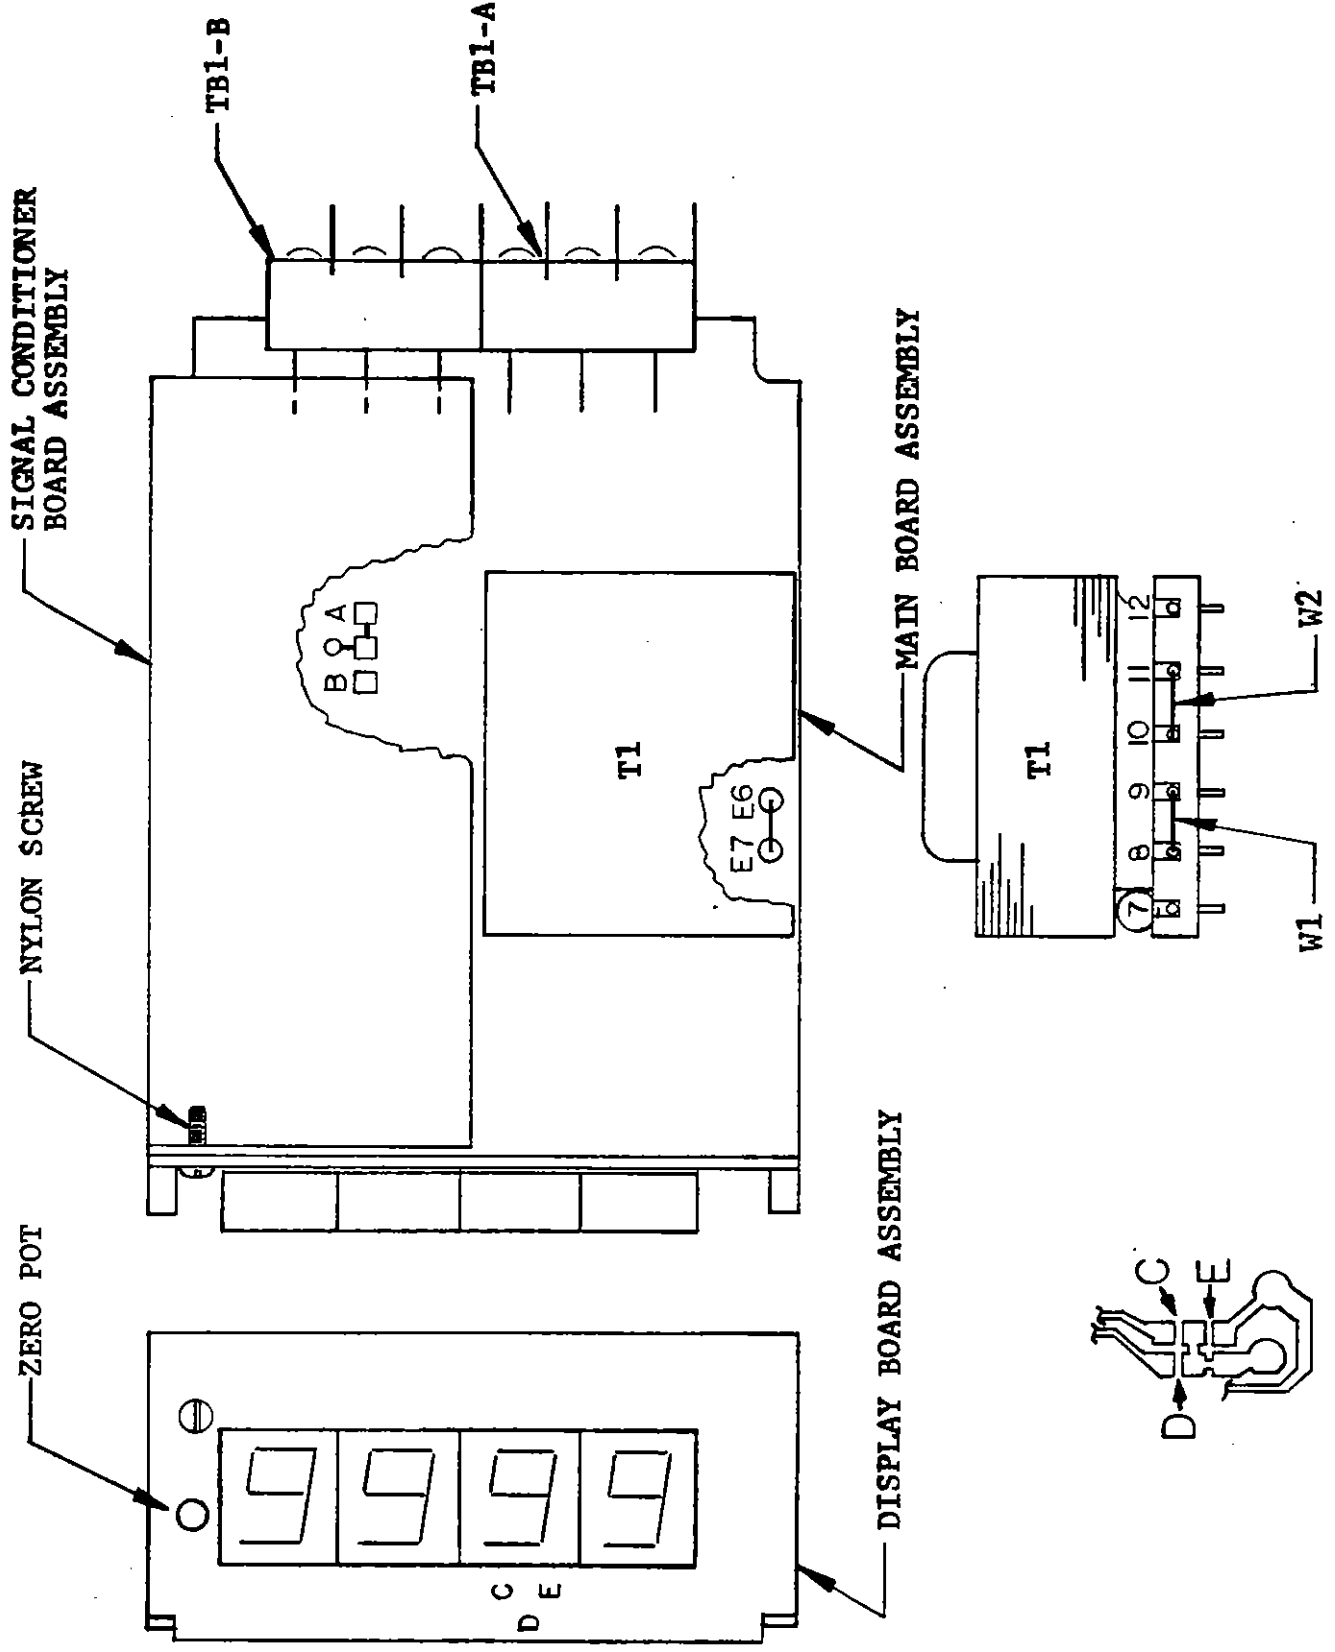

Figure 4
Option C1 is 230V $\pm 10\%$, 50 Hz operation. To change the meter in the field, from 115 to 230V operation, use the following procedure. See Figure 4
- d. Locate the range module mounting screw in Figure 4 and remove.
- f. For Options PC3, PC4 or PC6 solder jump "C" Decimal #2 on Display Board. (See Figure 4)
- g. For Option GC1, cut jumper "A" and solder jump "B" on main board. (See Fig. 4)
Any of three decimal points can be lighted by connecting the appropriate jumper with a bridge of solder as shown in Figure 4.
3. Apply zero volts from calibrated voltage source and verify readout of $\pm 0.0^{\circ}\text{C}$ or 32°F . Adjust zero pot if required (see Figure 4 for location.)